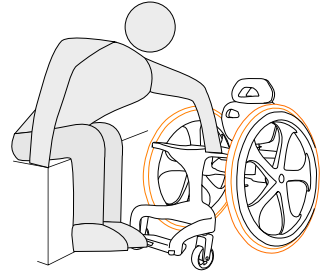

Figure 4.1
- Hold onto the transfer horn on the wheelchair seat and hold onto a nearby stable object to aid in transfer. (Fig 4.1)